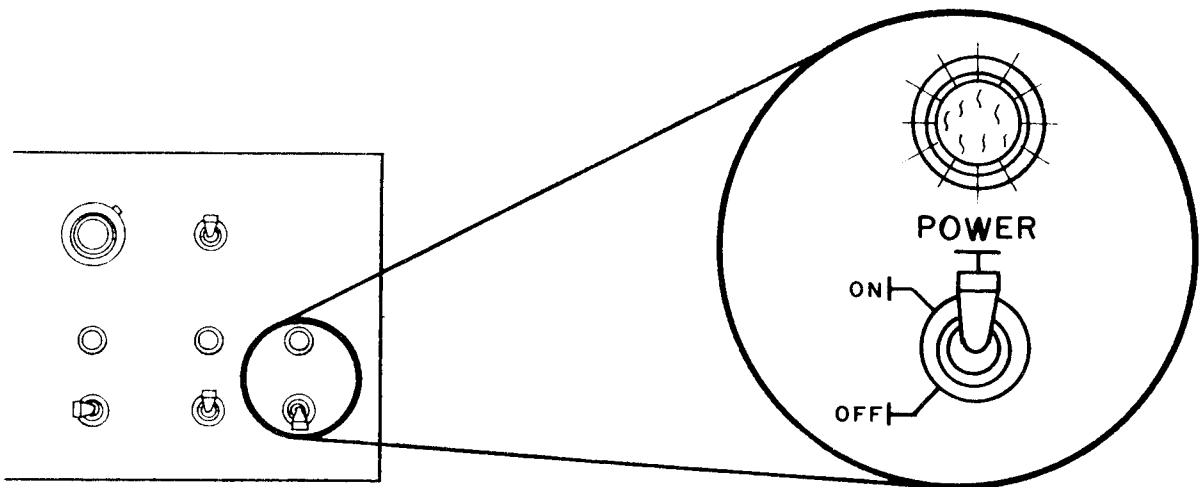

Figure 49. POWER Switch to ON
f. On the front panel, flip the POWER switch to ON (see Figure 49).